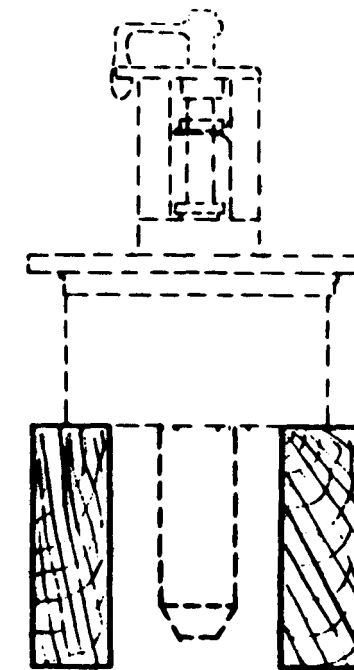

Figure 3
1. Remove bonnet and poppet assembly from valve and place on wooden blocks. (See Figure 3.)
2. Reset the bottom of the poppet on blocks. (See Figure 3.)